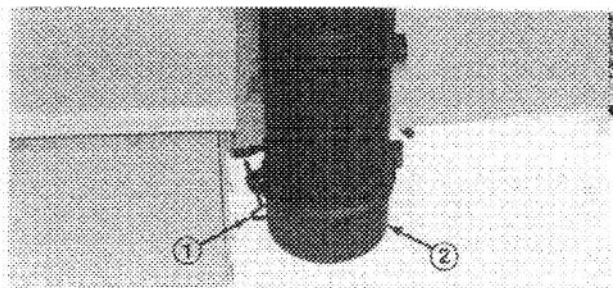

Figure 54
1. Loosen thumb screw until dust cup and baffle can be removed (Fig. 54). Separate dust cup and baffle (Fig. 54).